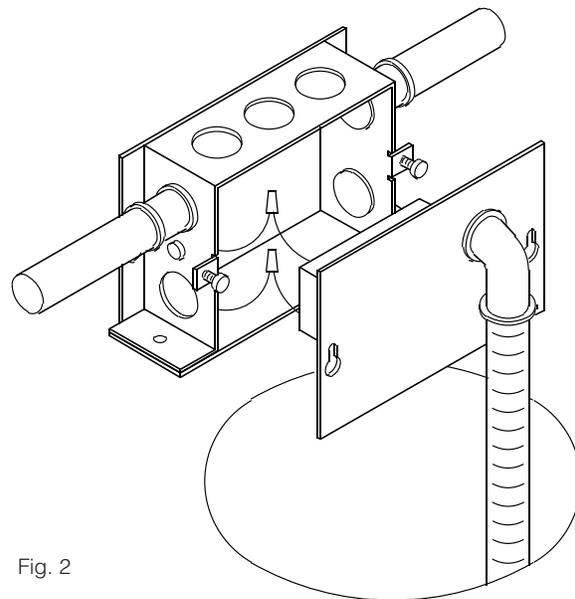

Fig. 2
5. With the transformer plate assembly held close to the aperture side of the J-box, make electrical connections between the power supply leads in the J-box and the input leads to the transformer. **Connect black fixture wire to black power supply wire; connect white fixture wire to white power supply wire.** After making electrical connections, secure the transformer plate to the J-box using the two (2) No. 8 screws. The loose end of the flexible conduit should hang down through the aperture with the two (2) white socket leads and two (2) black thermal protector leads protruding from its end. See Fig. 2